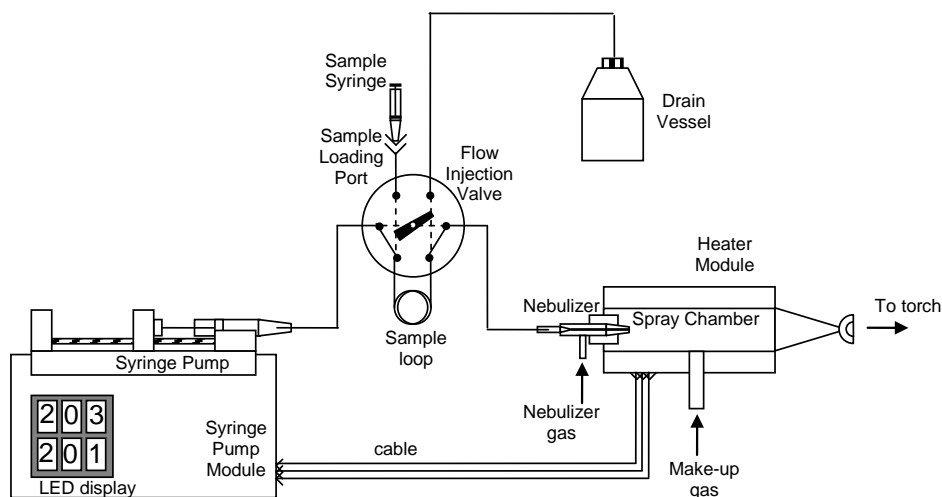

Figure 1. Schematic diagram of the Cells Introduction System
The Cells Introduction System (Figure 1) consists of a Syringe Pump Module (SPM), a Heater Module (HM), a 6-port Flow Injection Valve (FIV), a Drain Vessel (DV), a Sample Loop and several liquid-transfer tubes. The Syringe Pump Module comprises the Syringe Pump (SP) and a Heater Control Unit (HCU) with digital LED display. It is connected to the Heater power outlet on the instrument cover, and is protected by a 1 A 250 VAC fuse.